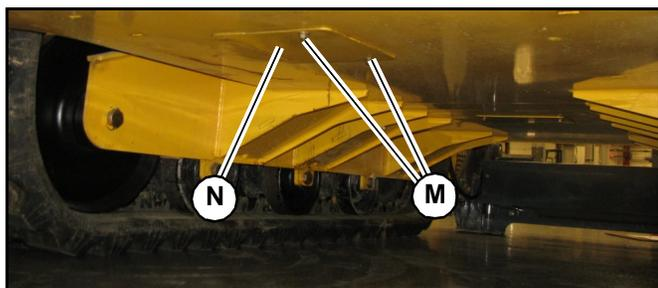

Fig. 127 – Engine Oil Drain Plug (Later Models RT175/RT210 Shown; RT250 Similar)
5. Remove hardware (M, Fig. 127) securing engine drain plug access panel (N). Remove panel to access engine oil drain plug (O).
NOTE: On Model RT250, and Models RT175 and RT210 with oil filters located on the side of the engine, oil filter (D, Fig. 128) is accessed through the drain plug access hole (Q, Fig. 127).